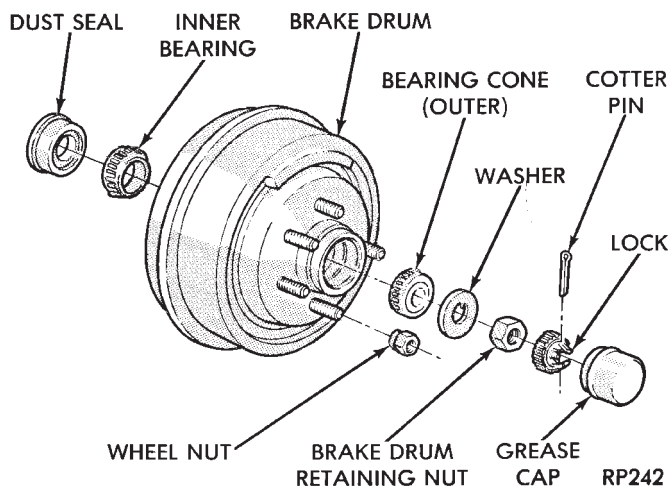

Fig. 2 Remove Brake Drum
- (1) Block front tires so vehicle will not move.
- (2) Release parking brake.
- (3) Hoist vehicle so that rear suspension is in full rebound and tires are off the ground. See Hoisting in Lubrication and Maintenance, Group 0.
- (4) Remove wheel and tire assembly.
- (5) Pry off grease cap.
- (6) Remove cotter pin and castle lock.
- (7) Remove adjusting nut.
- (8) Remove brake drum (Fig. 2).